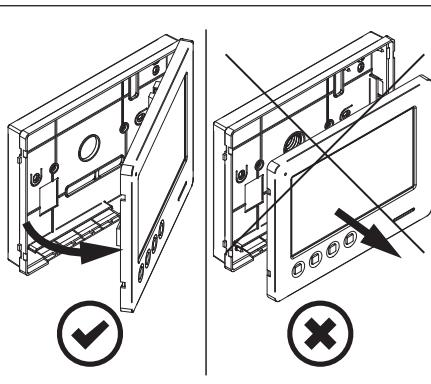

Fig. 2
2. Pull outwards the left part of the cover as shown in **Fig. 2**. **Don't pull the cover straight**.